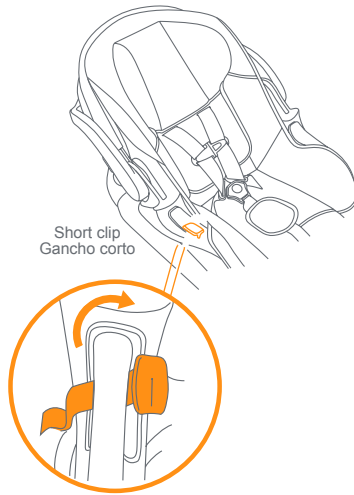
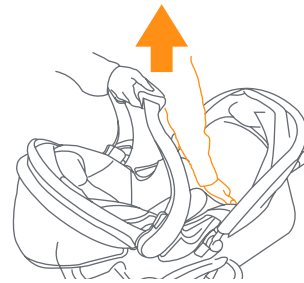

Fig. 16a
Fig. 16b
- 16) • When the infant car seat is locked firmly into place, secure the single short clip over the infant car seat through the belt path on the infant car seat (Fig. 16a). *It is very important that the short clip is always tightly fastened around the infant car seat. Always secure your child with the car seat harness when using the car seat in the stroller. If your child is already in the car seat, check that the child is secured with the harness. Improper use of the stroller with the car seat may result in serious injury or death.*
- To remove the Infant Car Seat, Remove the short clip (Fig. 16a), squeeze the release handle located at the Foot-End of the seat and carefully lift upward on the seat (Fig. 16b).
- Verifique que la sillita para el automóvil esté firmemente trabada en la bandeja para niños, luego fije la sillita infantil para el automóvil con el gancho corto metiéndolos en el recorrido del cinturón de la sillita infantil para el automóvil (Fig. 16a).
- Para retirar la Sillita para el Automóvil, retirar el gancho corto (Fig. 16a), apriete la manija de liberación ubicada en el extremo inferior del asiento y levante cuidadosamente la silla (Fig. 16b).